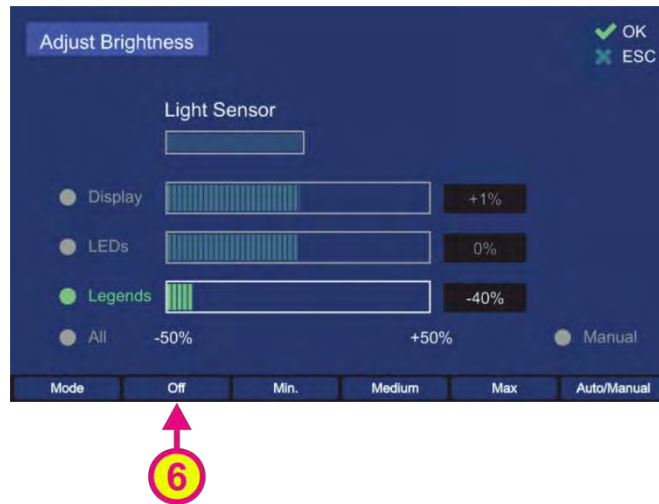

Figure 148. Deactivation of the illumination of legends
- The hotkey "Off" (s. Figure 148, number 6) is only available if the "Mode" is set to "Legends". Pressing this hotkey deactivates the illumination of the legends.